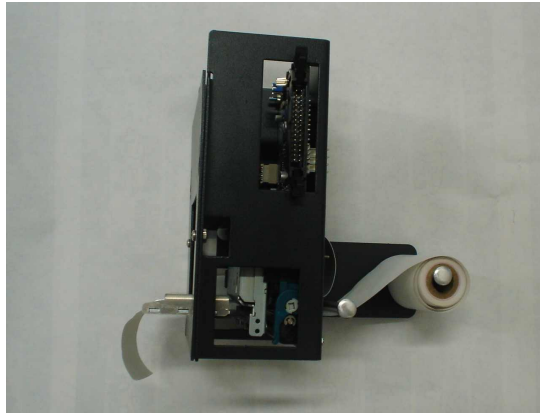

Figure P3: AC7074 Printer – Side View, Showing Proper Roll Placement
2. Move the "Paper Feed Lever" back to the DOWN position. Slide a new roll of paper onto the "Roll Holder", oriented so the paper comes off on the side toward the printer (refer to Figure P3 for the correct placement).
3. Wrap the paper under the “Paper Guide” and begin to feed it into the “Paper Slot.” You do not need to fold or cut the paper in any way; it should be left square in the front. At a certain point as the paper is being fed in, the printer will detect it and automatically feed it to the printing position. When done, the setup should look like Figure P3.
2. With the “Paper Feed Lever” still in the UP position, slide a new roll of paper onto the “Roll Holder,” oriented so the paper comes off on the side toward the printer (refer to Figure P3 for the correct placement).